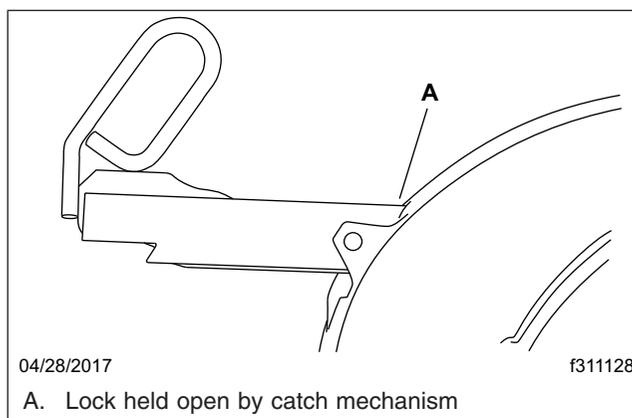

Fig. 20.6, Jost Release Handle Unlocked
2. Open the kingpin locks. See Fig. 20.6.
- 6.3 **Jost:** Pull the retractable handle out, then secure it in the open position with the catch. See Fig. 20.6.